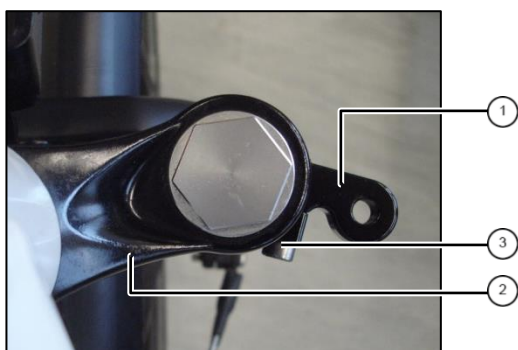

fig. 3: steering lever at fron fork
1. If so, install new front fork. Mount steering lever ① with bolts M5x20 ② and M5x25 ③ at right stancion. Do not tighten bolts.
2. Push steering lever to the top and adjust it according fig. 3. First tighten bolts ③ first and then bolts ②. **Tightening torque: 5Nm.**